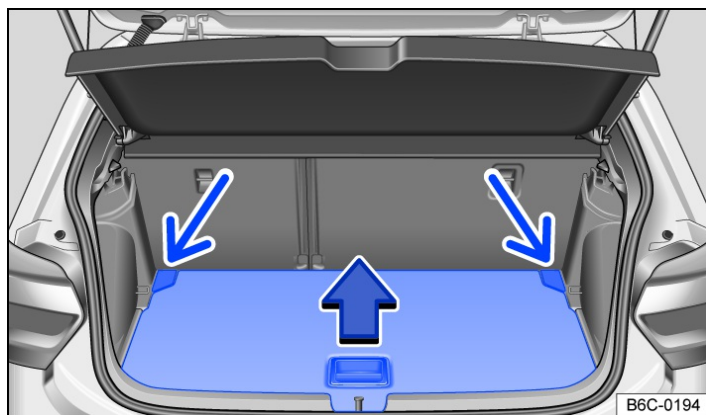

Fig. 1 In the luggage compartment: opening the variable luggage compartment floor.
- Grip the recessed handle in the variable luggage compartment floor → *Fig. 1* and lift it upwards.